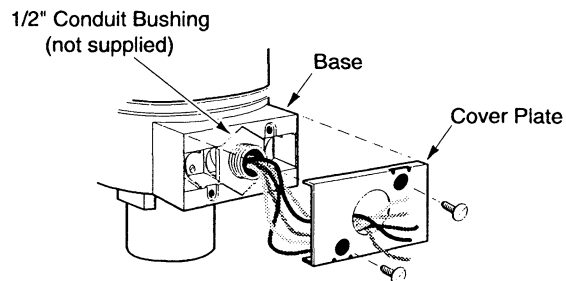
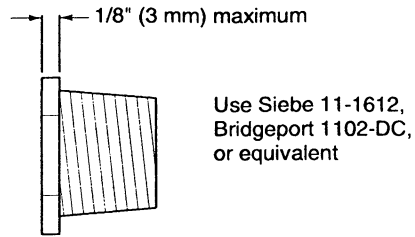

Figure-9 Conduit Bushing and Cover Plate Installation.
Figure-10 1/2" Conduit Bushing.
2. Slip the leads through a standard 1/2" conduit bushing (not supplied) and the knockout hole in the cover plate. Refer to Figure-9 and Figure-10.
As shown in Figure-9, the hole in the cover plate of the actuator conduit housing is sized to accept both British standard M20 (20 mm) conduit connectors and 20 mm-to-PG16 adaptors for use with DIN PG16 connectors. (Follow the steps for installing the conduit box to the actuator.)